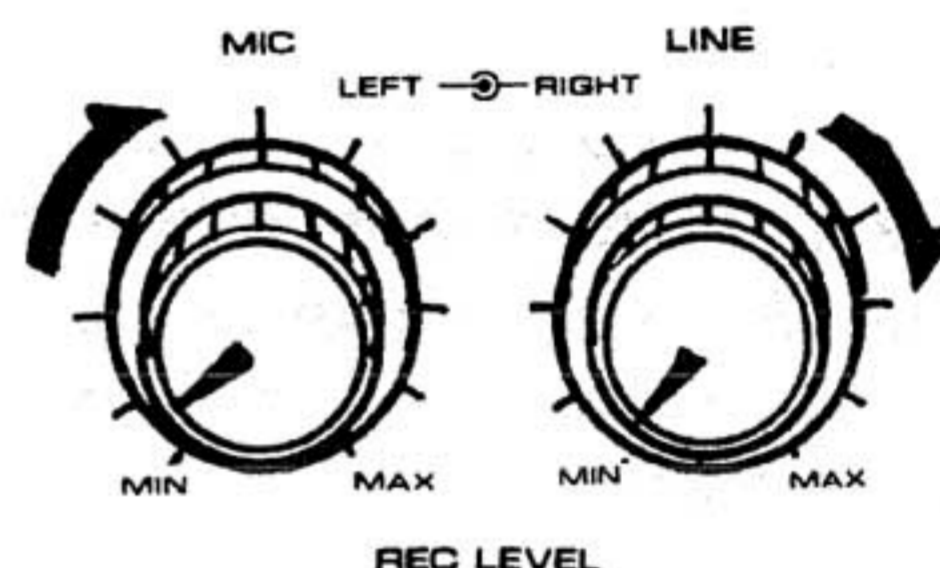

Fig. 25
7. Set MONITOR switch at position SOURCE. The level meters now indicate the level of the incoming signal so that you can adjust the recording level control for optimum recording quality. If the deck is connected to the amplifier via its DIN-type REC/PB connector, the recording level must be adjusted with the MIC recording level control. Refer to Fig. 25. For details, refer to the section "Recording Level Adjustments" on page 11.